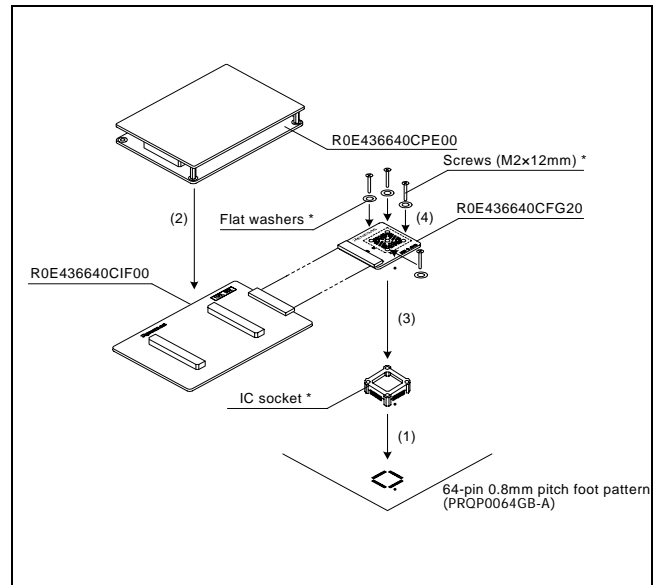

Figure 3 Connection procedure of the R0E436640CFG20
5. Connection Procedure (See Figure 3)